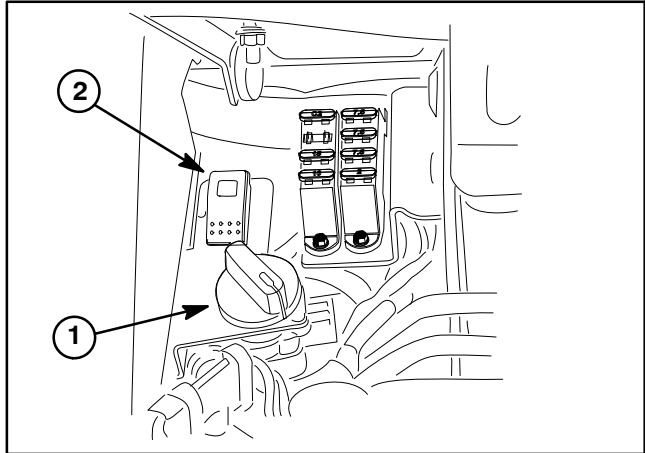

Figure 14
2. Raise and support operator seat. Locate the reel speed control and backlap switch under the seat (Fig. 14). Rotate the reel speed control to position "1" and place the backlap switch in the backlap position.